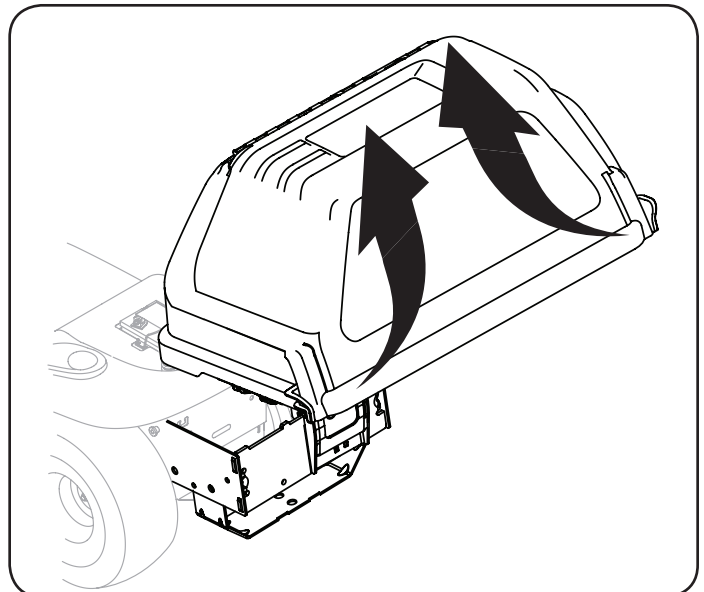

Figure 17
6. Open the bagger cover by pushing in on the tabs and lifting the upper grass catcher cover. See Figure 17.